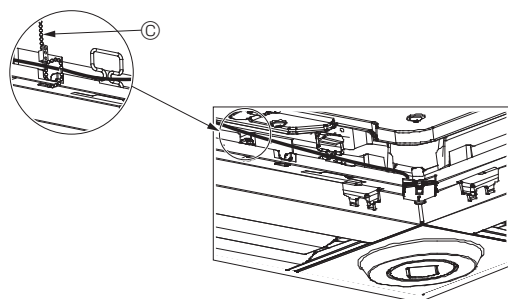

Fig. 10-12
- Secure the i-See sensor and signal receiver wires to the panel with the fastener as shown in the diagram so that there is no slack in the wires, and then cut off the excess end of the fastener. (Fig. 10-12)
- If the position of the i-See sensor was changed from the "o" position (E) to the "□" position (F), change the function settings. (Refer to page 12.)